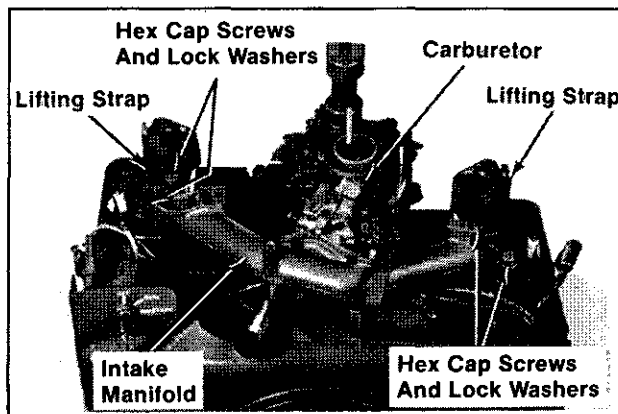

Figure 11-47. Installing Intake Manifold and Carburetor.
4. Install the gaskets, intake manifold with carburetor, lifting straps, split lock washers, and hex. cap screws. Torque screws to 150 in. lb. Refer to Figure 11-47.